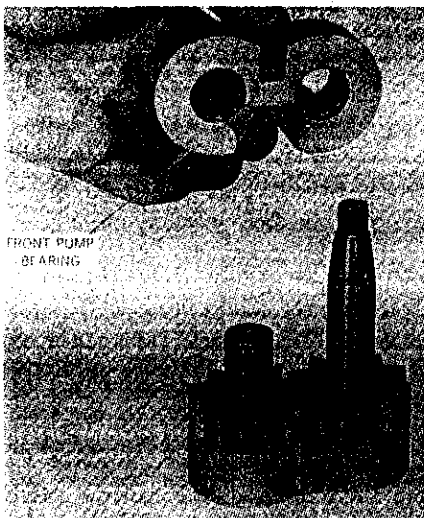

Fig. 422—Assembling pump gears and bearings.
Thoroughly clean all parts, air dry and then lubricate with hydraulic fluid prior to reassembly. Reassembly by reversing disassembly procedure using all new seals. Fig. 422 can be used as an assembly guide; the large notch in gear bearings must be toward the intake side of pump as shown in Fig. 420 and 421. Refer to Fig. 423 for early and late seal installation on rear cover for the independent PTO pump gear bearing. Alternately and evenly tighten the nuts on pump through bolts to a torque of 40-45 Ft.-Lbs. **NOTE:** Be sure the two dowel bolts are reinstalled in correct position as shown in Fig. 420 and Fig. 423. Install new washer (25) and bend tang of washer against gear retaining nut (24) after tightening the nut.